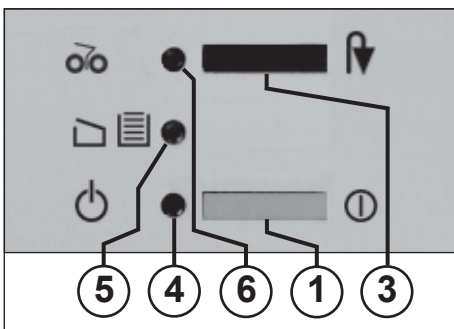

Fig. 1
- 1 = Pushbutton switch (fig. 1)**
- 3 = Pushbutton switch (fig. 1)**
- 4 = Pilot lamp (fig. 1)**
- 5 = Pilot lamp (fig. 1)**
- 6 = Pilot lamp (fig. 1)**
- b) while the cutting mechanism is running, the pushbutton switch (3) is pressed. The cutting mechanism is switched off and stops.
- Turn machine on with pushbutton switch (1) (fig. 1). Pilot lamp lights up (4) (fig. 1).
Once the collecting bag is full, the machine switches off. The pilot lamp „Container full“ / „Door open“ (5) (fig. 1) **flashes**. To show that the cutting mechanism has stopped, the pilot lamp „Paper jam“ / „Stop“ (6) lights up.
- Move back the sliding frame with the collecting bag and close door. The pilot lamp (5) (fig. 1) goes off.
- Briefly press the pushbutton switch „Backward operation“ / „Stop“ (3). The cutting mechanism shreds what remains in the feed shaft and then switches off. The pilot lamp (6) goes out. You can now continue shredding.